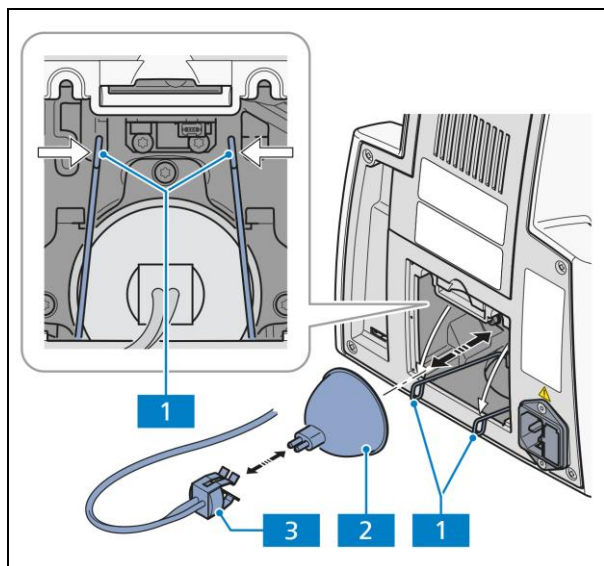

Fig. 3-16 Changing the halogen lamp
- Remove the lamp plug (Fig. 3-16/3) from the halogen lamp (Fig. 3-16/2).
- Press the loops (Fig. 3-16/1) on the securing clips of the lamp holder together and swing them out to the front.
- When changing the lamp, remove the old one (Fig. 3-16/2).
- Lift the securing clips (Fig. 3-16/1) of the lamp holder with the lamp until they are completely enclosed in the lamp holder. In doing so, slightly press the ends of the securing clips together and guide past the two upper retaining elements. Release the pressure until the clamping bracket opens and engages on both sides in the retaining elements.
- Check that the lamp is seated correctly and push the lamp plug (Fig. 3-16/3) onto the pins of the lamp holder (Fig. 3-16/2). Ensure that it engages properly to avoid bending the pins.